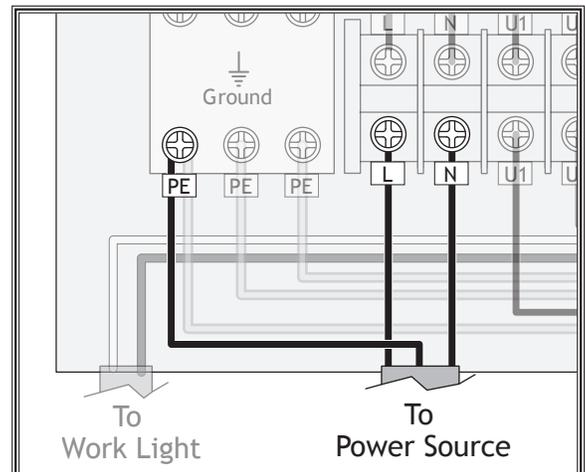

Figure 13. Locations of power cord connections inside the electrical cabinet.
2. Open the electrical cabinet and identify the L and N terminals, and the grounding plate (PE) at the bottom left of the cabinet (see Figure 13).